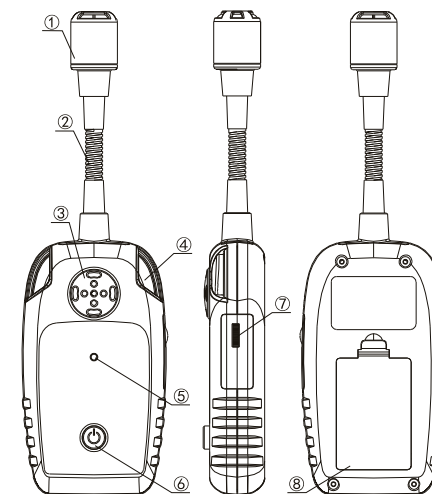

Figure 1
F. Name of parts (Figure 1)
- ① Probe cap and built-in sensor.
- ② Goose neck
- ③ Countersink
- ④ Alarm indication
- ⑤ Power indication (after startup)
- ⑥ Open/shut down key.
- ⑦ Sensitivity adjustment knob
- ⑧ Battery door